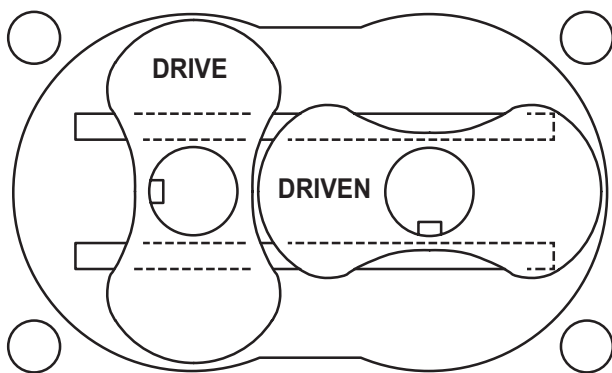

Figure 8-1 – Keyways
- Set each rotor into position in the housing with the gear end (long shaft) up. Face keyways in the direction shown in **Figure 8-1**. This will position the rotors so they will match the keyways in the gear.